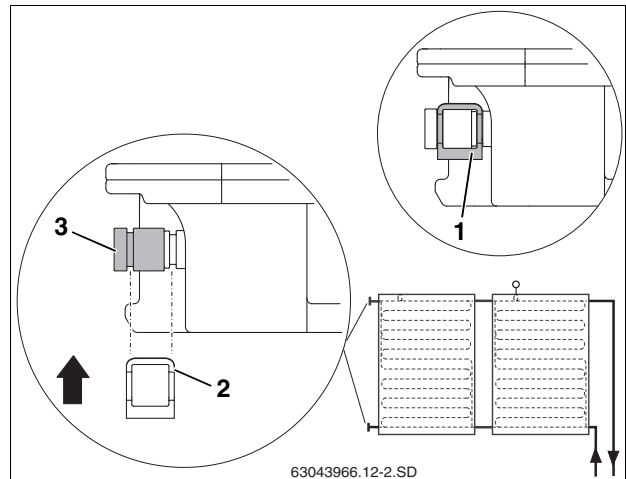

Fig. 42 Securing plug with a clip
- ▶ Push plug with the O-rings (Fig. 42, [3]) onto the collector connection. Ensure it hits the stop.
- ▶ Push clip (Fig. 42, [2]) over the plug and collector groove to secure the connection.
- ▶ Secure each plug with a clip (Fig. 42, [1]).